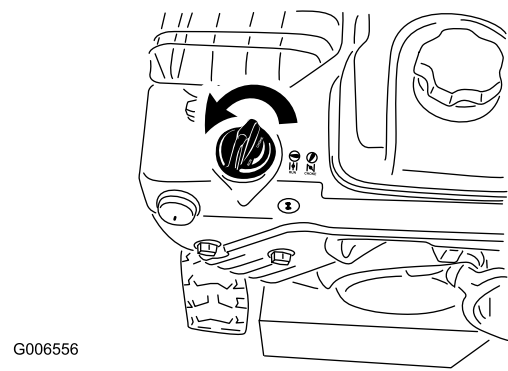

Figure 21
5. Rotate the choke to the Choke position (Figure 21).